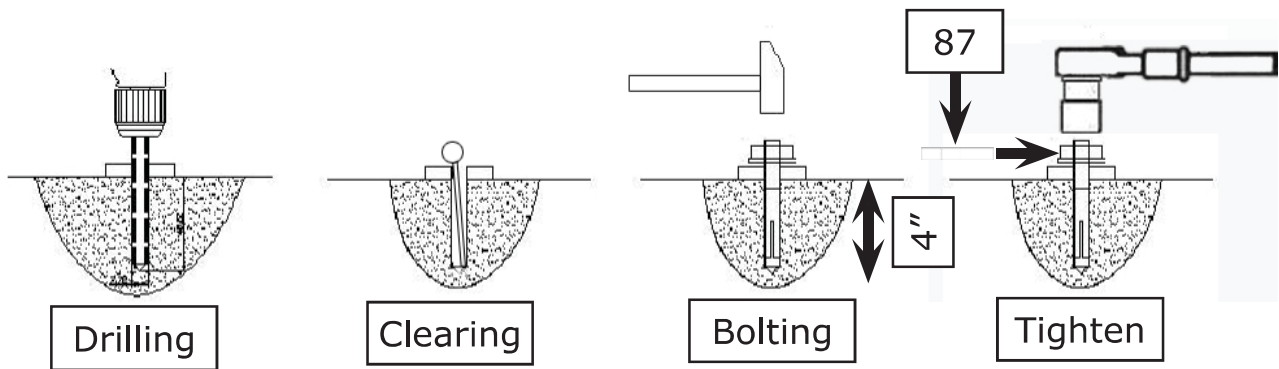

Fig. 25
- 2.2 Fix the anchor bolts. Drilling the hole for the anchor bolt with the rotary hammer drill, type the anchor bolt into the ground, and then fasten it with ratchet spanner (**See Fig. 25**). **Note: The torque of anchor bolt is 86 foot pounds, the length inside ground of anchor bolt must be over 90mm.**